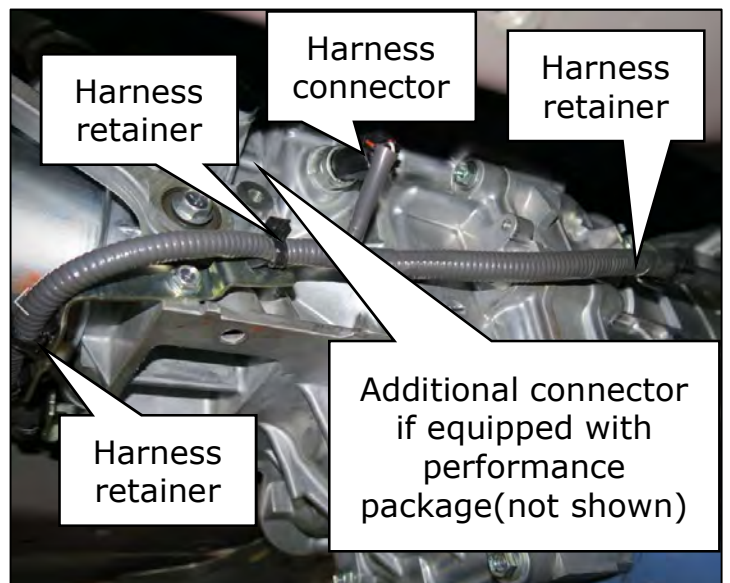

Figure 83
84. Connect the wire harness connector(s) and harness retainers on the RH side of the transmission shown in Figure 83.